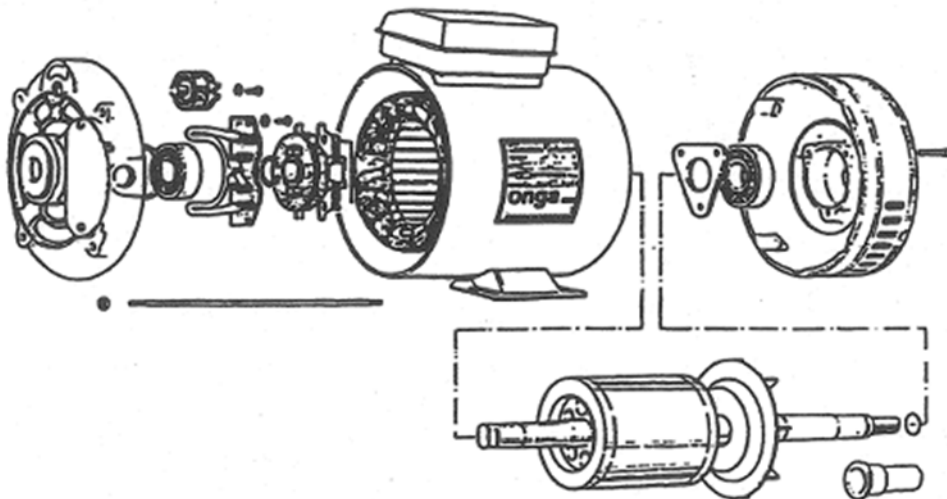

Figure 1 - Typical split phase induction motor
4. An exploded view of a typical single-phase split-phase induction motor is shown in Figure 1.